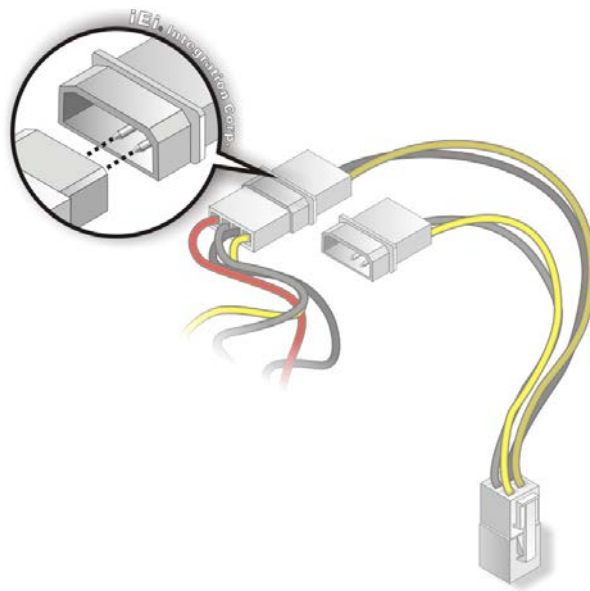

Figure 4-17: Connect Power Cable to Power Supply
Step 3: Connect Power Cable to Power Supply. Connect one of the 4-pin (1x4) Molex type power cable connectors to an AT power supply. See Figure 4-17.